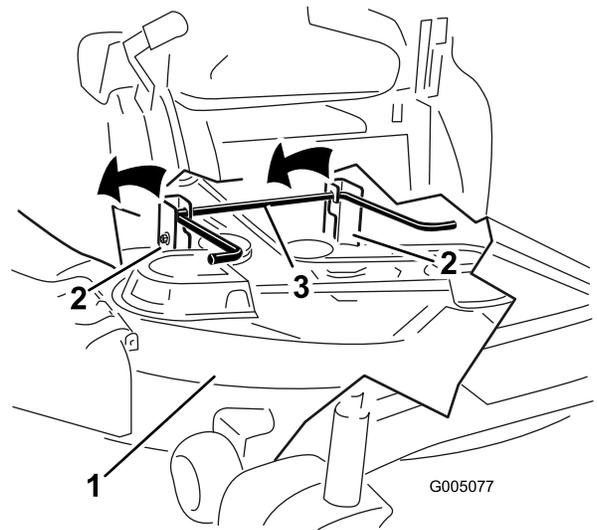

Figure 71
1. Deck-lift spring (2)
7. Lift the mower deck and hanger brackets clear of the rear lift rod and lower the mower carefully to the ground (Figure 71).
5. Lift the rear of the mower deck and guide the hanger brackets over the rear lift rod (Figure 71).